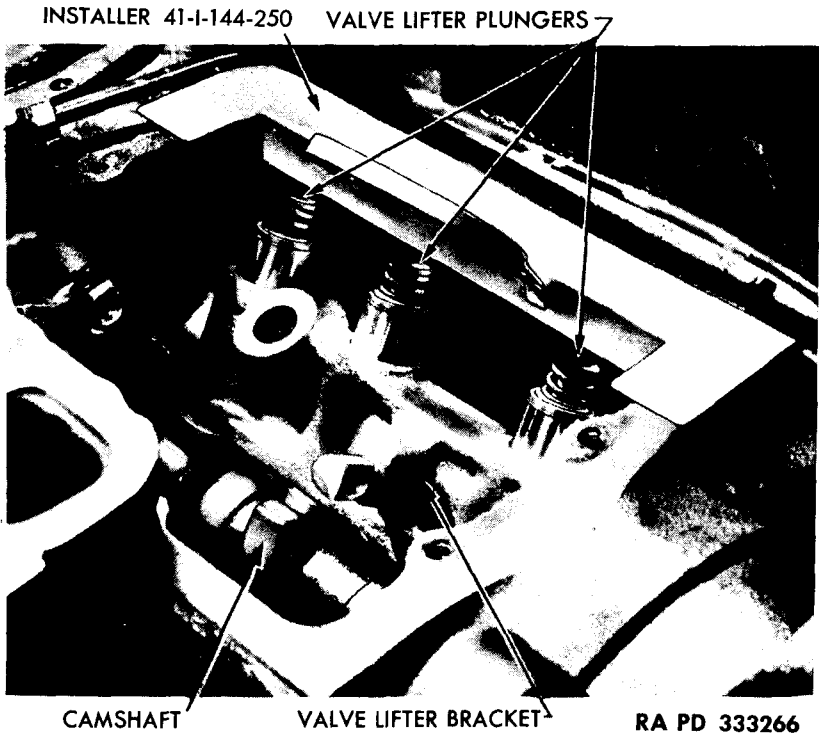

Figure 46 – Installing Valve Lifter Bracket Assembly
(3) **INSTALL VALVE LIFTER BRACKET.** Install valve lifter bracket in crankcase, forcing lifters down under valve stems (fig. 46). Install valve lifter bracket mounting screw lock plate over mounting holes, and install the two valve lifter mounting screws. Bend mounting screw lock plate up around both screw heads. Repeat operations (1) through (3) to install the other three valve lifter bracket assemblies.